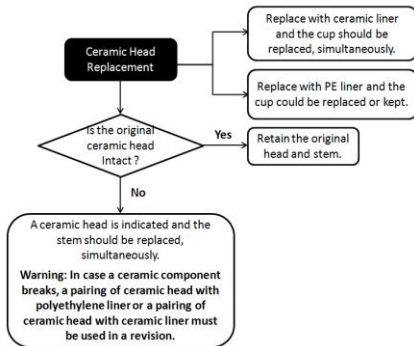

Fig. 6: Suggestions of ceramic combinations for a ceramic liner replacement.
16. Ceramic head replacements (See Fig. 6):